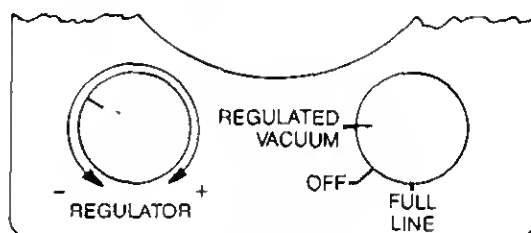

FIGURE 12
9.1.1 If regulated flow is required, turn selector knob (lower right) to the "REGULATED VACUUM" mode (see Fig. 12). Occlude the suction tubing so there is no flow of air.
Under most circumstances, this sub-assembly *need not* be taken apart. Normally, failure from contamination will occur last in the mode selector switch. If a leak is suspected in this area, or assembly, remove operating stem (Fig. 12) and single screw in center of mode selector switch. Lift switch from post, clean and/or replace "O" rings and switch. Assemble and test for function per section 5.0.